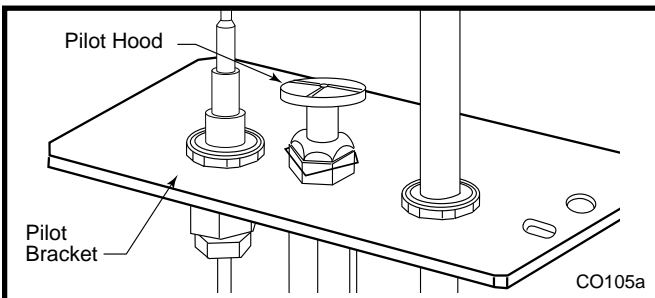

Fig. 71 Remove pilot hood.
- Remove pilot hood by lifting up. (Fig. 71) **NOTE:** It is not necessary to remove the pilot tube for conversion.